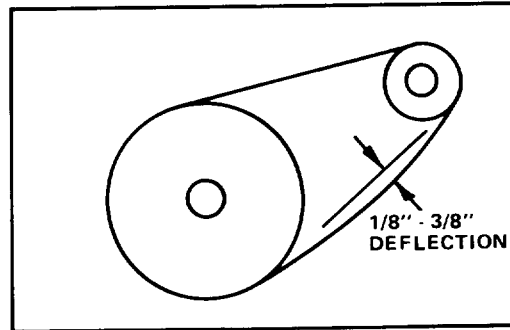

Figure 25
1. Check deflection of chain by lifting up on chain with moderate pressure at mid span. There should be 1/8-3/8" deflection (Fig. 25). If deflection is not as specified, an adjustment is required.